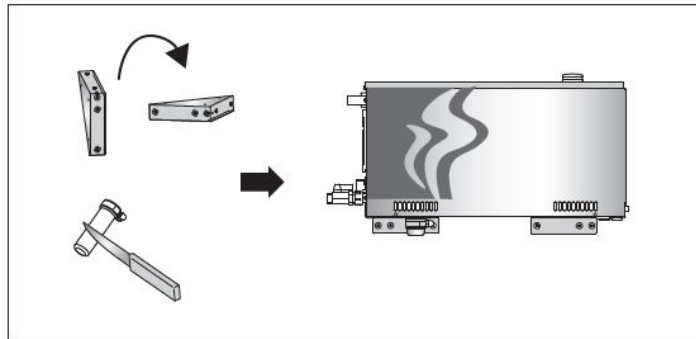

Figure 7.
- You can place the steam generator in lower space by turning mounting parts to horizontal plane and cutting the sediment cup smaller (figure 7).